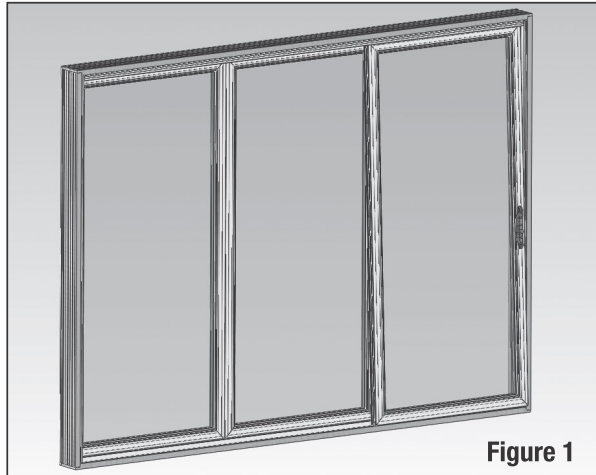

Figure 1
1 Insert the operating panel into the frame, making sure that the inside surface faces the interior. Insert the top and then the bottom of the panel. See **Figure 1**.
- 1 Insert the exterior handle into the holes in the panel and insert the interior handle. Make sure that the latch operates properly before tightening the screws. See **Figure 1**.